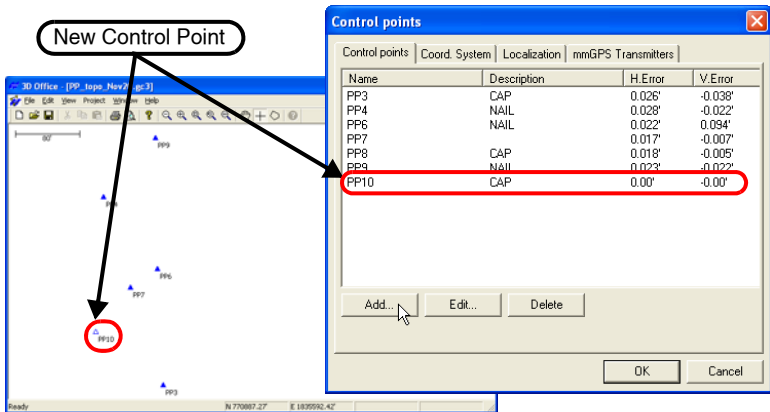

Figure 2-13. Control Point Added to File
4. Press **OK** to view the new control point on the Plan View (Figure 2-13 on page 2-11).